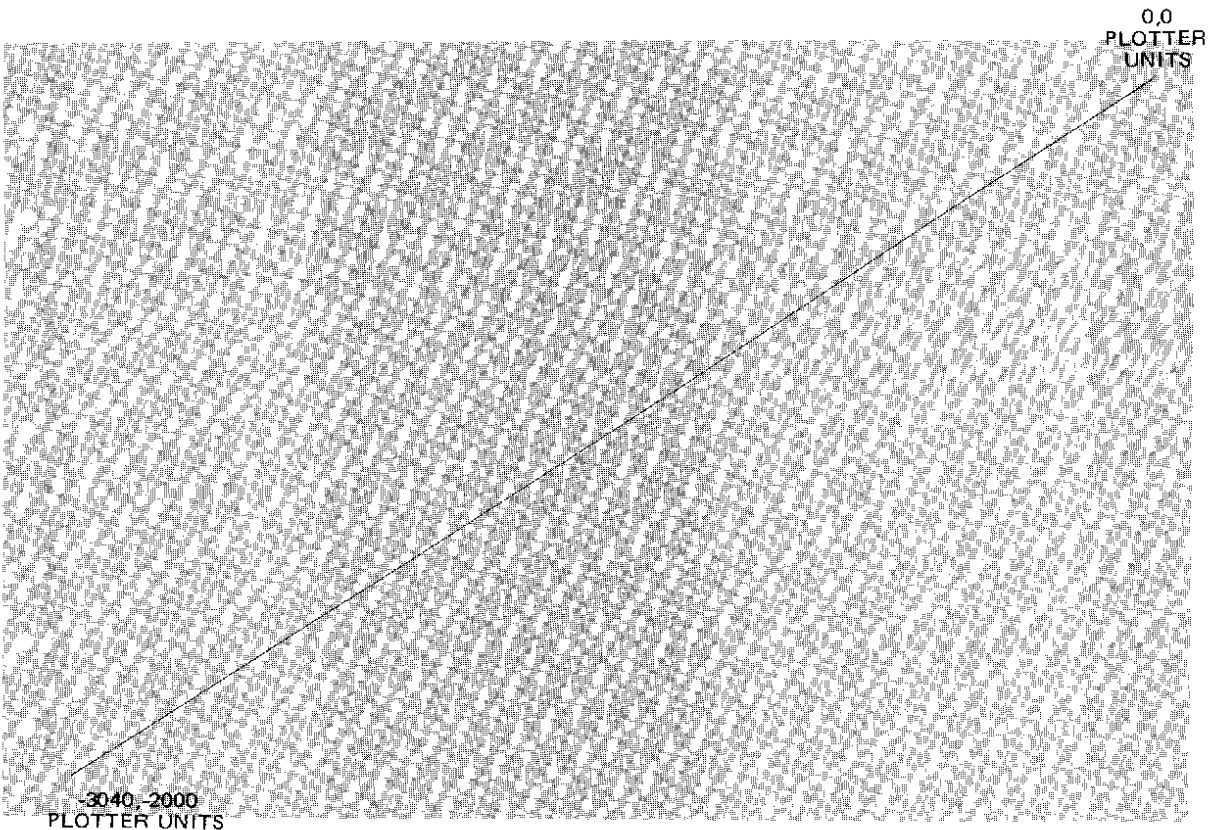

Figure 4-8. Performing an Incremental Draw
**Result** Pen lowers and draws a line from upper right (point of origin = 0, 0 plotter units) to lower left (-3040, -2000 plotter units) as shown in Figure 4-8.